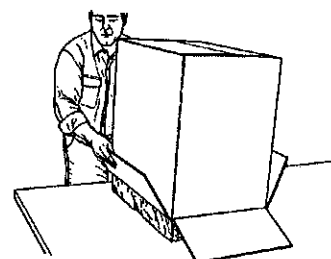
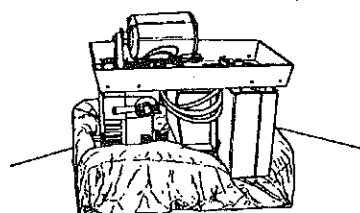

Fig.A-2
Fig.A-3
5. Slowly lift the box from the Power Station. See Fig.A-2. You will be assembling the legs, belt and pulley guard and leg braces with the Power Station in this position. The foam padding and cardboard gives it support and stability, as in Fig.A-3, during your assembly operations.